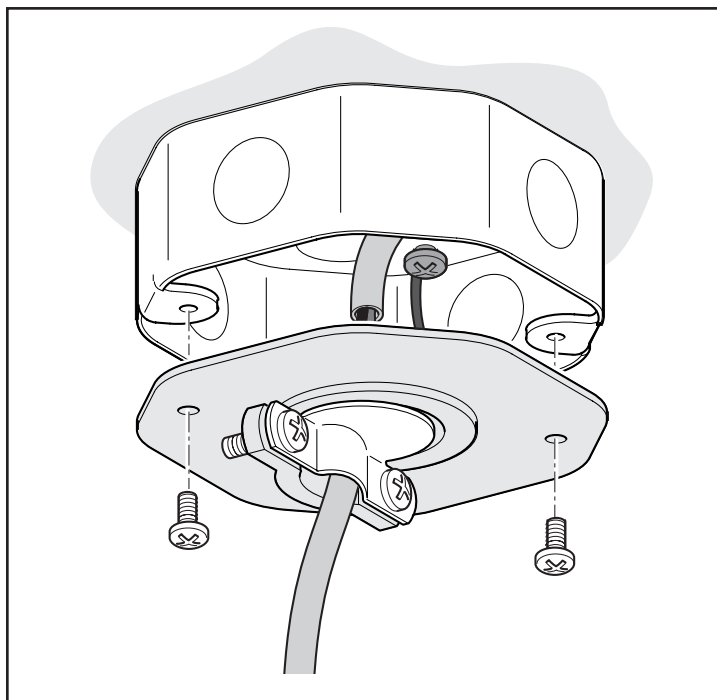

Figure 5
8. Attach **Access Plate (A)** and assembly to the junction box (not shown) ensuring that the **Fixture (F)** is at the correct mounting height and that the 2 screws (not included) are adequately tight. (Figure 5)